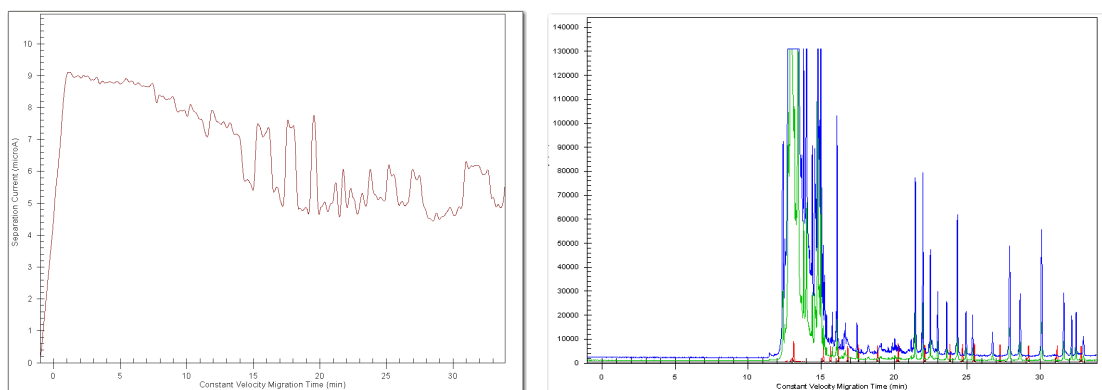

Figure 1.5 Abnormal Capillary Current Profile and corresponding Raw Data
A current failure, as shown in Figure 1.5, will cause the GeXP fragments to do the following:
- separate abnormally with delayed peaks (Figure 1.5)